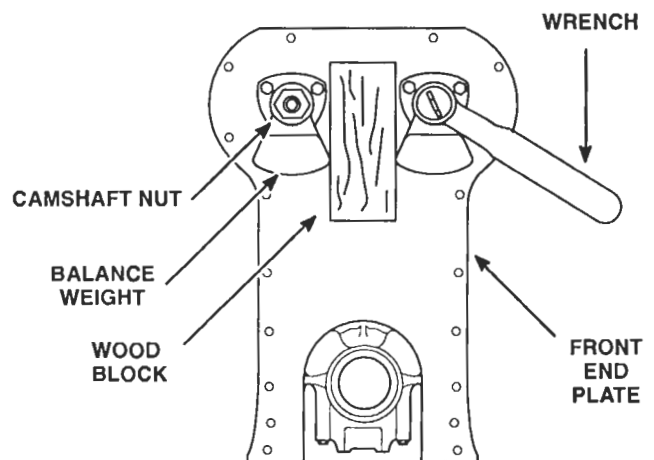

Figure 4. Loosening Nut on Camshaft or Balance Shaft
6. Remove the front balance weight cover and place a wood block between the balance weights (Figure 4.) or wedge a clean rag between the camshaft and balance shaft drive gears at the rear of the engine.